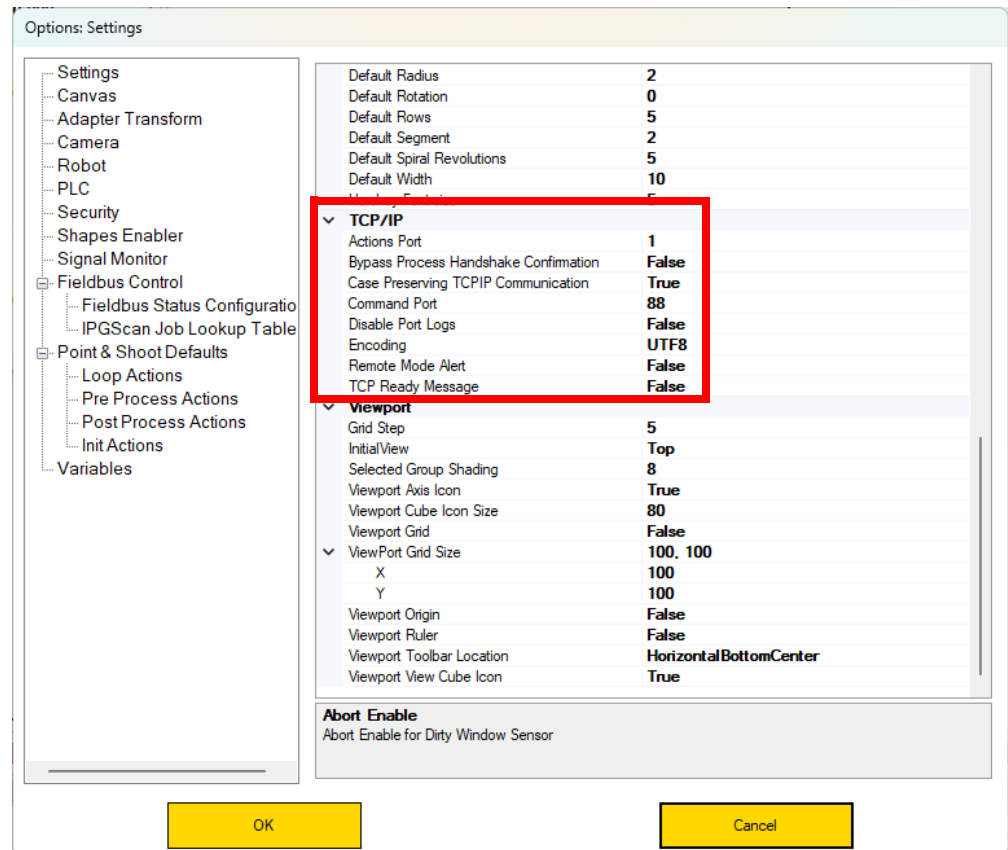

Figure 365: TCP/IP Settings
3. Select "Settings" and scroll down to the TCP/IP settings. See Figure 365 (below).